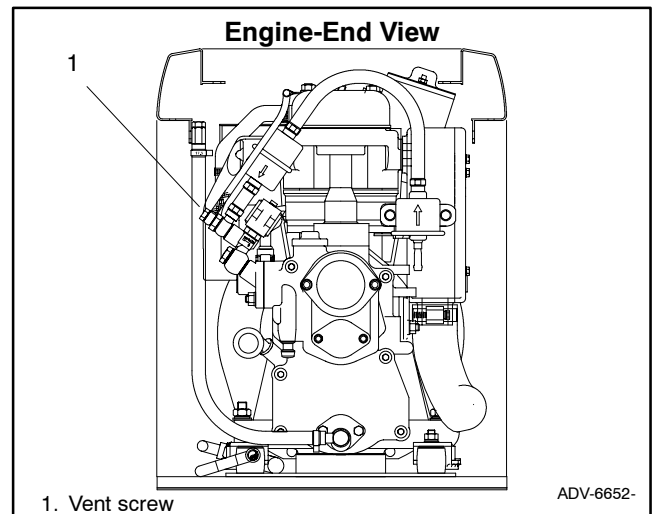

Figure 3-7 Vent Screw Location
1. Loosen the vent screw. See Figure 3-7.